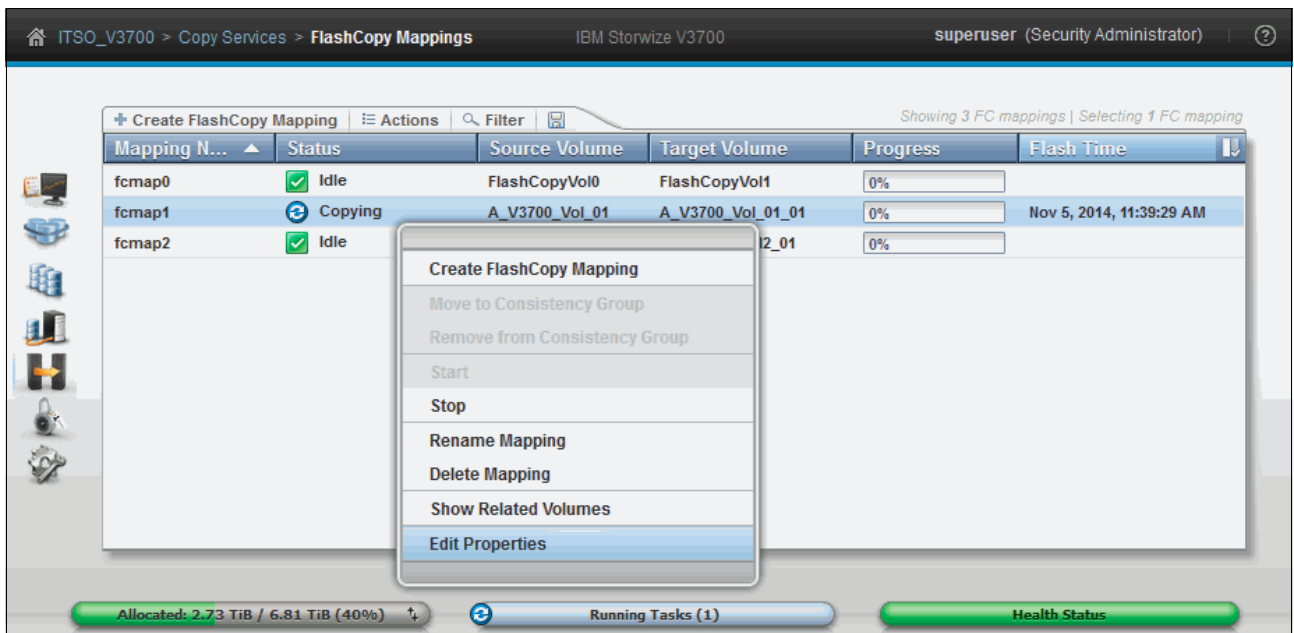

Figure 3-85 FlashCopy Mappings pane
2. Select **Create FlashCopy Mapping** to configure a new mapping or use the Actions menu to administer the mapping. Figure 3-85 shows the FlashCopy Mappings pane.